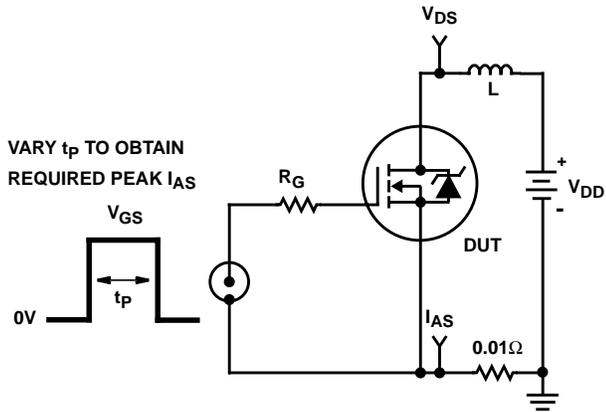

FIGURE 15. UNCLAMPED ENERGY TEST CIRCUIT
- $V_{DD} = 50\text{V}$ , starting  $T_J = 25^\circ\text{C}$ ,  $L = 1.5\text{mH}$ ,  $R_G = 25\Omega$ , peak  $I_{AS} = 30\text{A}$ . See Figures 15 and 16.